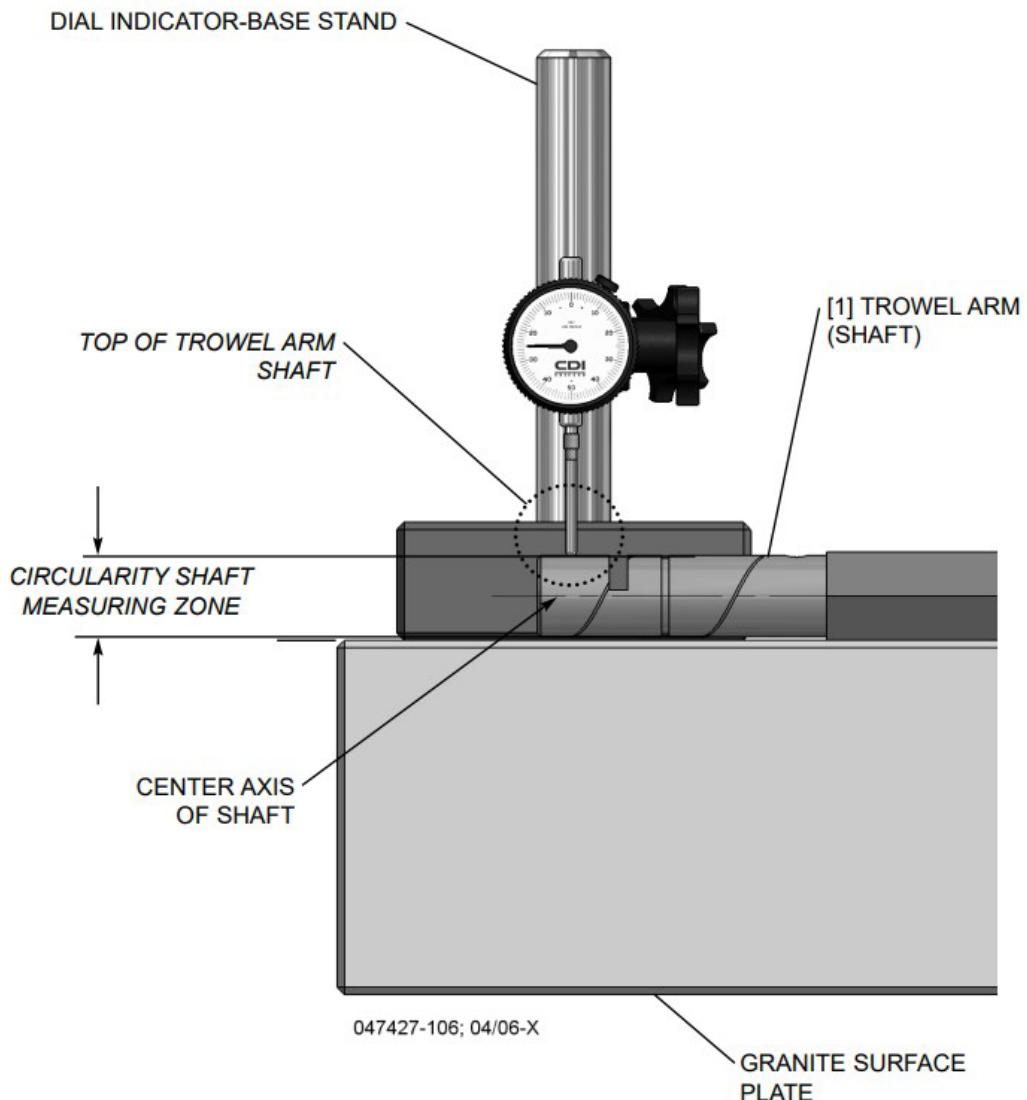

Figure 1.4-5
Step 3: Using a dial indicator or applicable feeler thickness gage, inspect for any signs of circularity defects that might affect the diameter feature of the trowel arm shaft. Check for any abnormal out-of-roundness, bent axis, or oblong defectives. Refer to Figure 1.4-5.